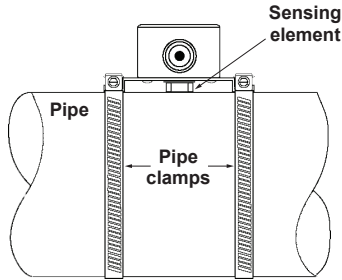

Figure 3 - Installing the TE-704-B, TE-704-C, or TE-704-D Sensor
2. Apply a thin layer of A-505 thermal compound to the sensing element. Refer to **Figure 3**.